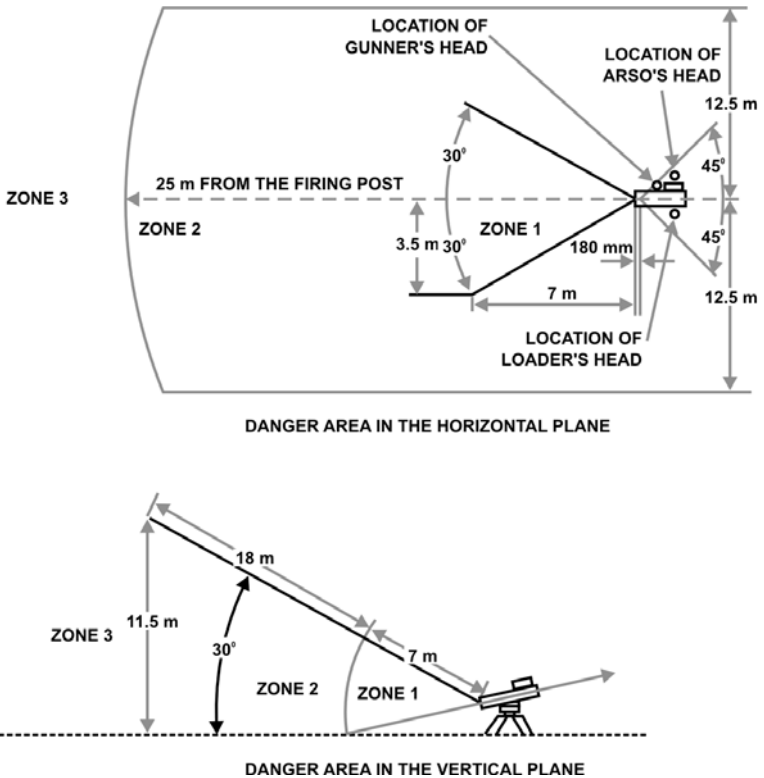

Figure 2-5: Backblast Danger Area
- (2) checking that a hole is drilled through the tubes of dummy rounds; and
37. **Backblast.** *Explain.* The backblast danger area is composed of two zones (see Figure 2-5):
- c. To prevent any injury to personnel (i.e. gunner, loader and Assistant Range Safety Officer (ARSO)) from any possible missile dysfunction related to the launch motor, a ballistic protective device will be added on the rear part of the missile tube. Now in production, this device will soon be in service. **Until this device is issued, only the kneeling and standing position are authorized for live firing, and personnel shall be within the 45 degree arc on either side of the tube (see Figure 2-5).**
- d. Safety distances related to the training practice (TP) missile are 12.5 metres on either side of the missile-tube and 25 metres behind.